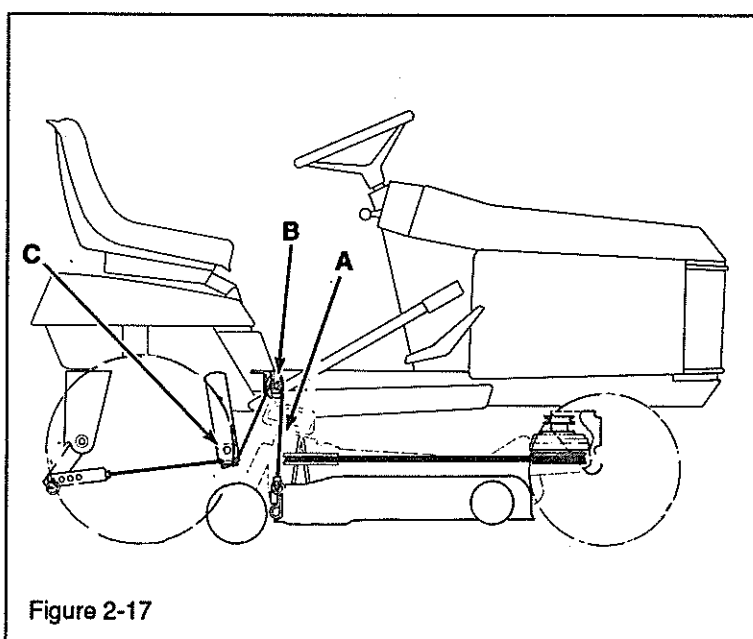

Figure 2-17
- d. ALL MODELS: Each lift system uses a flexible cable between the rocker arm and attachment. Inspect this cable for fraying, bending, or kinking. Inspect and replace if necessary to allow free movement of the cable (A, Figure 2-17) through pulleys (B) and (C).